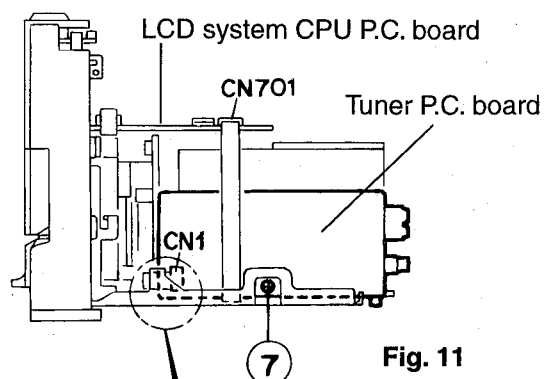

Fig. 11
3. From the connector CN603 on the CD servo control P.C. board, disconnect the card wire outgoing from the power amplifier P.C. board (See Fig. 11)
4. From the connector CN604 on the CD servo control P.C. board, disconnect the card wire outgoing from the connector CN766 on the LCD system CPU P.C. board. (See Fig. 11)
5. Disengage the left and right engagements ① and ② fixing the CD player unit by using a minus screw driver, etc. (See Figs. 11 and 12)
(See Fig. 11)